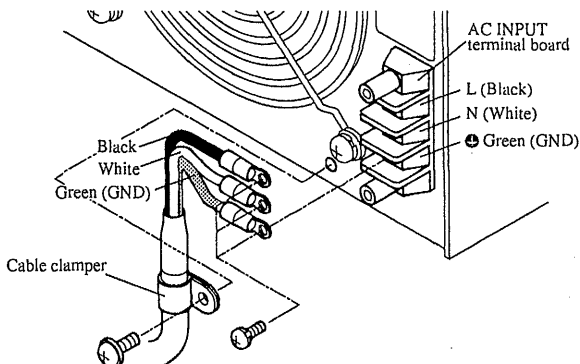

Fig. 1-4 Connection of AC power cable
- ① Remove the AC input terminal cover.
- ② Remove the cable clamper mounted on the rear panel.
- ③ Connect the supplied AC power cable to the terminal board as shown in Fig. 1-4.
- Check that wires of specified color are connected to the specified terminals. See Fig. 1-4 for the correct connections.
- Fig. 1-4 shows the connections on the model 350W. Connections on other models can be performed in the same manner. However, the direction of mounting the cable clamper vary depending on the model.